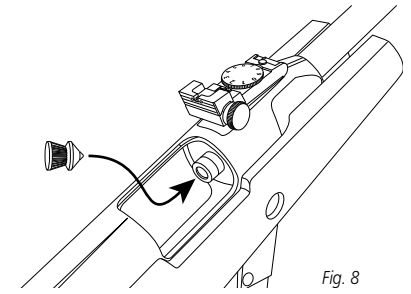

Fig. 8
- Load the barrel with only one pellet from as shown in (Fig. 8)